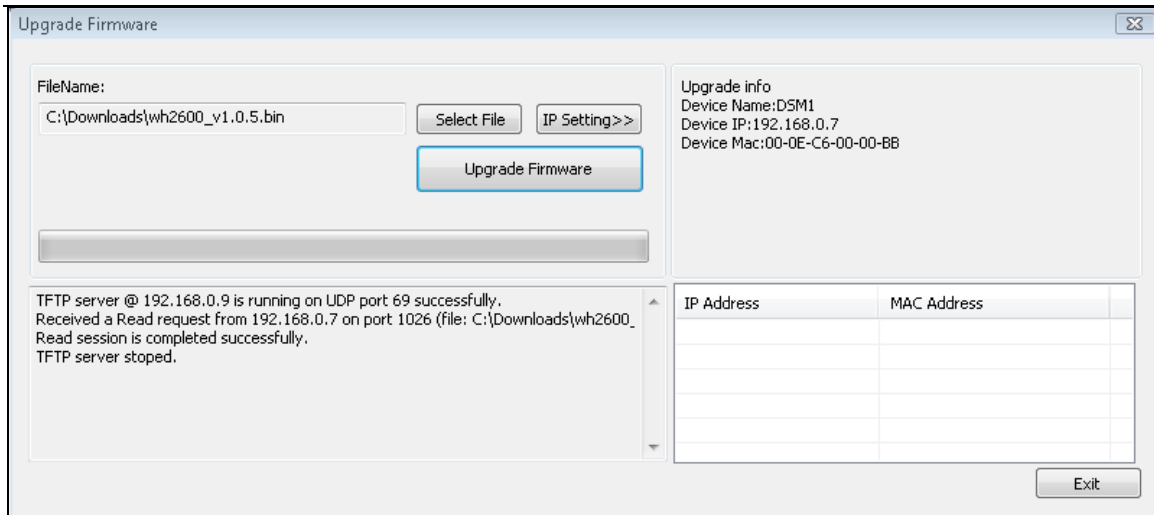

Figure 29
6. Once the firmware upgrade is complete, the dialog box will display **Read session is completed successfully**, as shown in Figure 29.